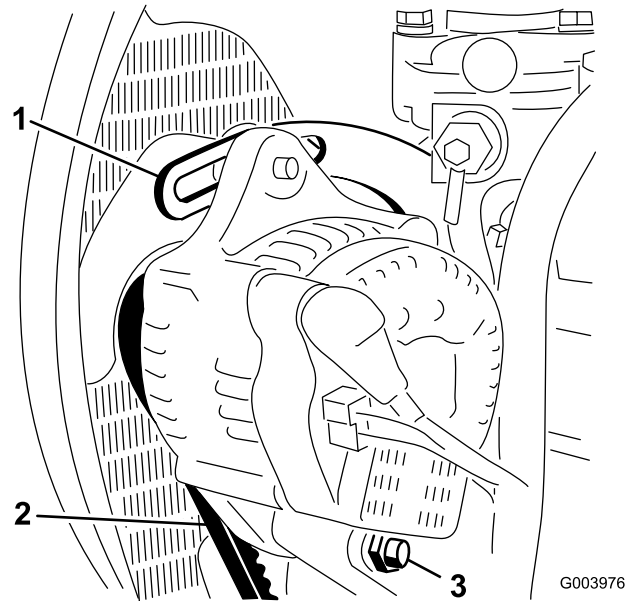

Figure 67
2. Check the tension of the alternator belt by depressing it (Figure 67) midway between the alternator and the crankshaft pulleys with 10 kg (22 lb) of force.
3. Loosen the bolt securing the brace to the engine (Figure 67), the bolt securing the alternator to the brace and the pivot bolt.